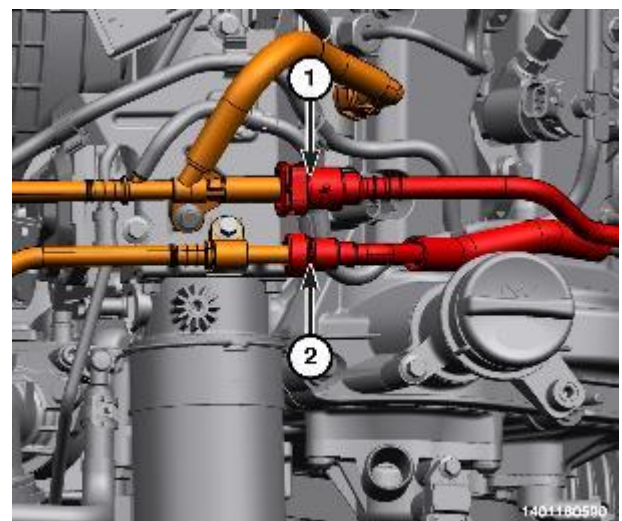

Figure 157 – Fuel Supply and Return Lines
21. Disconnect the fuel supply (2) and return (1) lines (Figure 157).